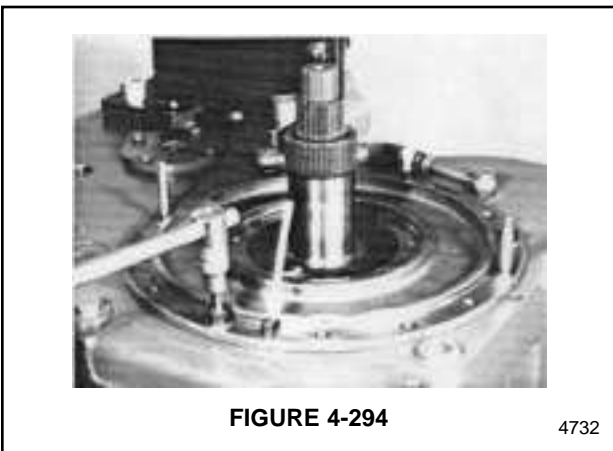

FIGURE 4-294
22. Install the 2 roll pins. See Figure 4-294. Install 3 socket head screws to temporarily hold the oil supply flange.